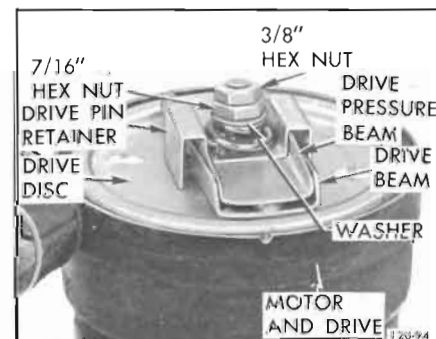

Figure 120-94—Antenna Drive - Cover Removed
11. Hold the 7/16" hex nut on the output gear assembly shaft, remove the 3/8" hex nut (see Figure 120-94).